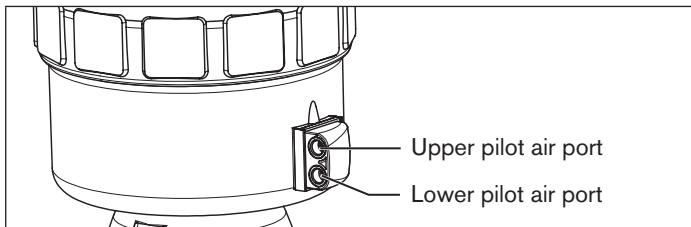

Fig. 13: Pneumatic connection
- Connect the control medium to the lower pilot air port of the actuator (see "Fig. 13: Pneumatic connection")
- Connect the control medium to the upper pilot air port of the actuator (see "Fig. 13: Pneumatic connection")
For reducing the exhaust air noise: plug the silencer into the free air discharge connection (see "Fig. 13: Pneumatic connection")
⑥) see "Fig. 13: Pneumatic connection"